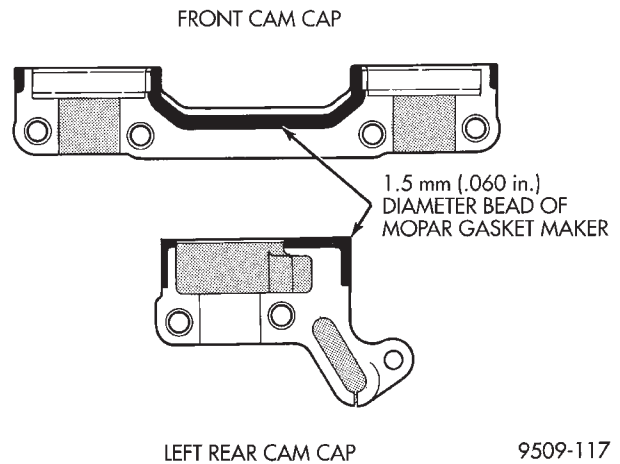

Fig. 31 Camshaft Bearing Cap Sealing
- (2) Apply Mopar Gasket Maker to No. 1 and No. 6 bearing caps (Fig. 31). Install bearing caps and tighten M8 fasteners to 28 N·m (250 in. lbs.).
- (3) Bearing end caps must be installed before seals can be installed.
- (4) Install timing belt, sprockets and covers. Refer to timing belt service outlined in this section.
- (5) Install cylinder head cover using procedure outlined in this section.